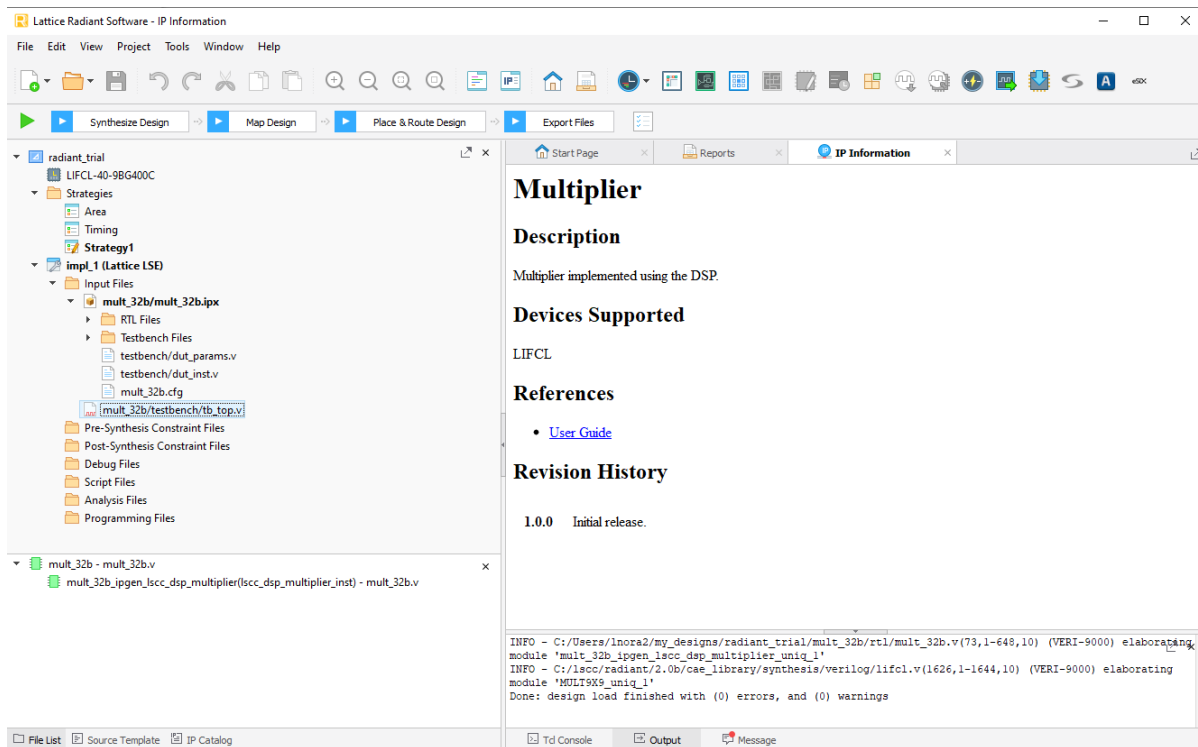

Figure 4.3. Top Level Testbench Instance Added to the Project
- Click **Add**. This adds the top-level testbench to the project as shown in Figure 4.3 after opening.